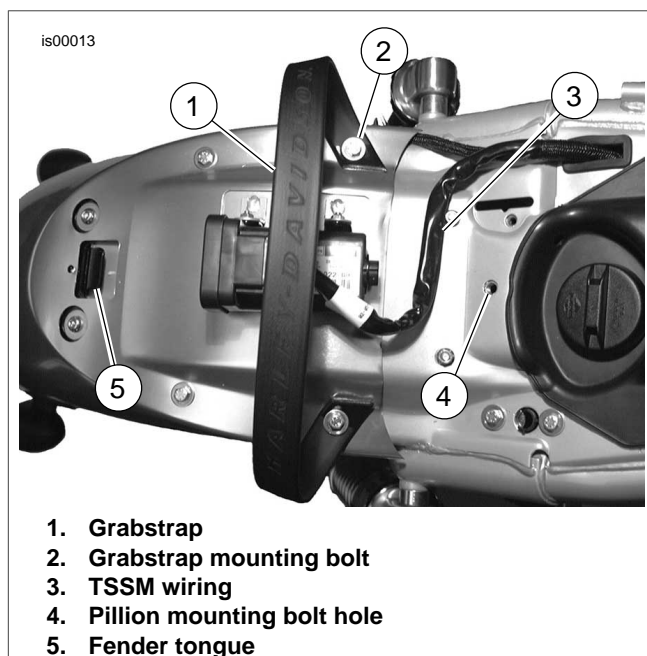

Figure 2. Pillion and Grabstrap Fastener Points
2. See Figure 2. Remove the two mounting bolts (2) from the passenger grabstrap (1). Save the bolts for re-installation.
3. See Figure 2. Install stock grabstrap bolt, and one end of grabstrap as shown. While holding the grabstrap end parallel to the formed line of the fender, tighten the bolt to 8-12 Nm (71-106 in-lb). Repeat for opposite end of grabstrap.
4. Install new pillion into position through grabstrap. Prevent pinching TSSM control wiring by routing the cable through the channel on the underside of the pillion (see Figure 2) and away from the pillion mounting bolt. Pinched wiring may damage the TSSM system.
6. See Figure 2. Push down on the pillion and slide the pillion toward the rear to engage the pillion slot with the fender tongue (5). Push rearward until the pillion mounting holes align.
- a. See Figure 2. Remove the two mounting bolts (2) from the passenger grabstrap (1). Save the bolts for re-installation.
- b. See Figure 2. Install stock grabstrap bolt, and one end of grabstrap as shown. While holding the grabstrap end parallel to the formed line of the fender, tighten the bolt to 8-12 Nm (71-106 **in-lb**). Repeat for opposite end of grabstrap.
4. See Figure 2. Push down on the pillion and slide the pillion toward the rear to engage the pillion slot with the fender tongue (5). Push rearward until the pillion mounting holes align.